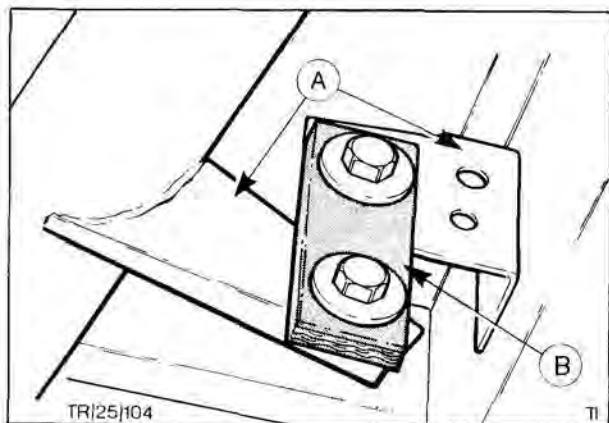

Fig. 30. Front support of rear tail pipe
5. Align exhaust hanger to support strap. Position and secure support to exhaust with nut and bolts, remembering to refit any washers, Fig. 30 and 31. For rubber insulator, align and reconnect by hooking it on the hanger.